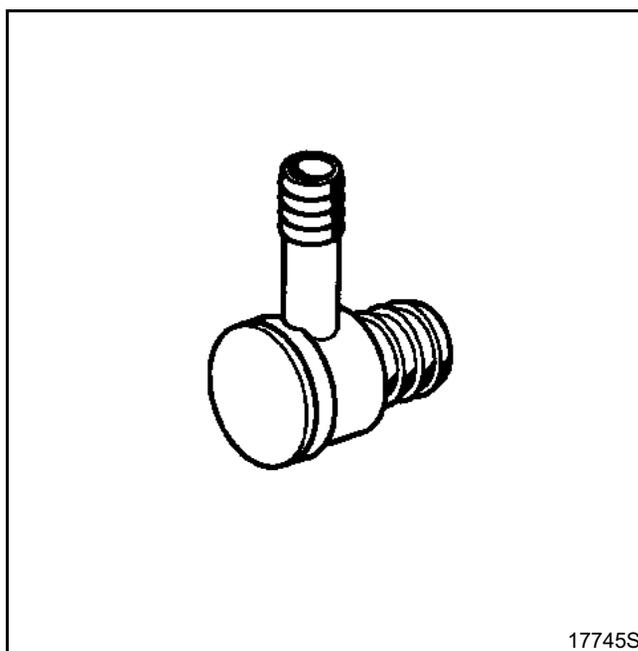

Fig. 3
- The upper surface of the brake servo non-return valve is flat, smooth and marked only with a blue coloured spot, or flat and smooth with no coloured spot markings (**Fig. 3**),